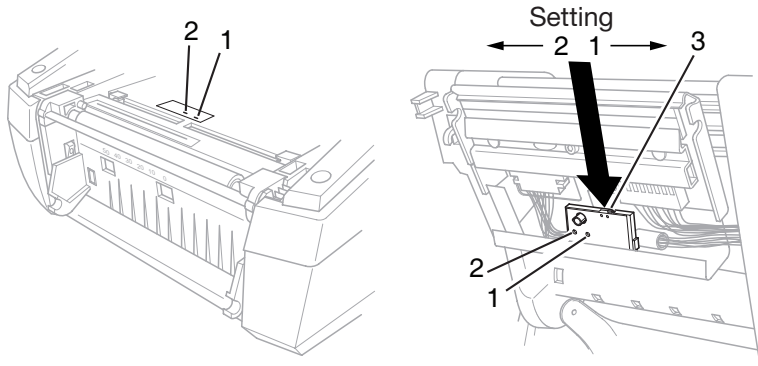

Figure 13, Selecting the Gap Sensor
The printer has gap sensors (**Figure 13, 1 and 2**, receivers in the left picture, transmitters in the right picture) which can detect the start and end of a label. These sensors are controlled by a switch setting (**Figure 13, 3**). The switch can be set to the left or to the right. All Brady IP enabled material will instruct the user, via the front LCD display, which position to set the switch. For non-standard material, set the sensor to position 2. Non-standard notched material is dependent on specific supply criteria.
2. Move the switch (**Figure 13, 3**) to the left or right as required.